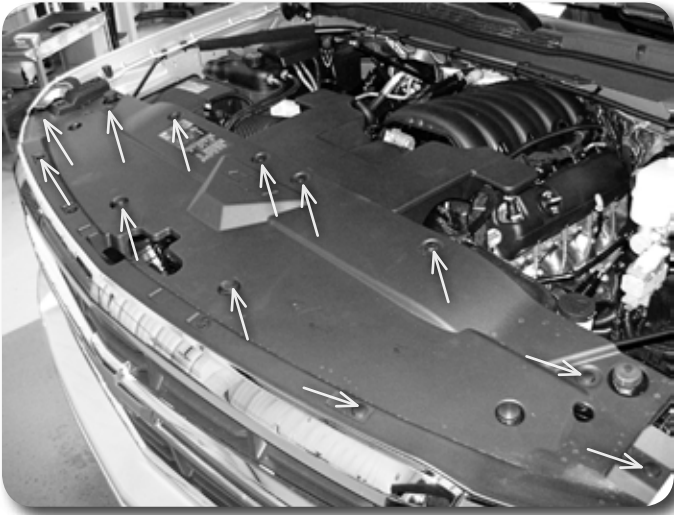

Figure 1
1. Remove the 12 plastic retaining clips holding the upper core support cover to the core support **Figure 1**. Pull up on the center of the clips to unlock and then pull them out of the cover. Save the cover and clips.